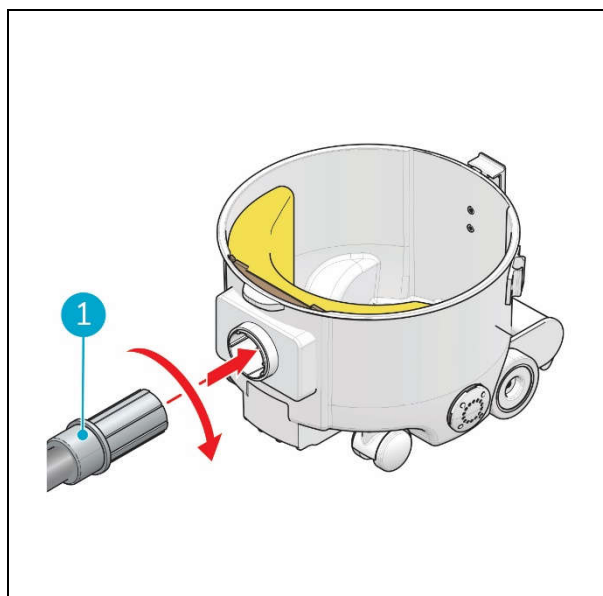

Figure 14
13. Place the hose (fig 14, pos 1) into the hose connector, turn it clockwise to lock it.